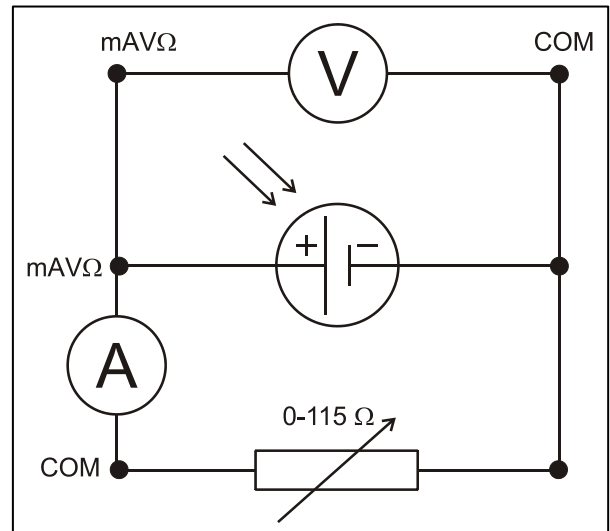

Figure 3.7: Circuit diagram with variable load resistor (potentiometer box) and multimeters
- Leave the solar cell in place (approximately **35 cm** from the lamp) and build the circuit shown in Figure 3.7. Use the potentiometer box as a load resistor.
In a real solar module, cells are assembled in series and in parallel. The circuit you will study is still the one of Figure 3.7 with a single cell and with two cells combined, respectively.